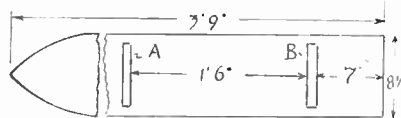

Fig. 1—The board
The actual ironing board might be made first. This is shown in Fig. 1, an underside view. It is cut to the shape from a single board of $\frac{7}{8}$ in. deal. Where shown at (A) screw across a piece of wood, $\frac{3}{4}$ in. thick and $1\frac{1}{2}$ ins. wide, just 7 ins. long. At (B) screw across a second piece, the same length as (A) or approximately so (see later on) and $\frac{3}{4}$ in. by 2 ins. section. Owing to the width of these pieces of wood, to avoid having to use extra long screws, a good plan is to bore $\frac{1}{2}$ in. holes first, $\frac{1}{2}$ in. to $\frac{3}{4}$ in. deep, then to continue through the rest with a smaller hole to just allow of the screw being pushed through. Screws $\frac{1}{2}$ in. long will then suffice.